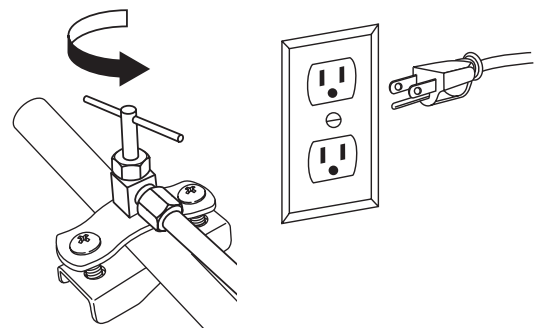

Figure 12
Connection to the Water Supply - Figures 12, 13
5. Insert the electrical plug for the appliance into the electrical outlet (**Figure 12**).